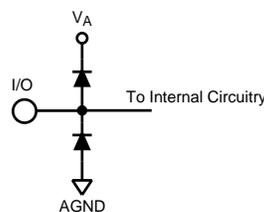

Figure 2.
- (1) The inputs are protected as shown below. Input voltage magnitudes above  $V_A$  or below GND will not damage this device, provided current is limited per Note 4 of the Absolute Maximum Ratings Table. However, errors in the A/D conversion can occur if the input goes above 2.6V or below GND as described in the Operating Ratings section. See Figure 2.
- (2) With a full scale differential input of  $2V_{P-P}$ , the 14-bit LSB is  $122.1\ \mu\text{V}$ .
- (3) Typical figures are at  $T_A = 25^\circ\text{C}$  and represent most likely parametric norms at the time of product characterization. The typical specifications are not ensured.
- (4) Parameters specified in dBFS indicate the value that would be attained with a full-scale input signal.
- (2) With a full scale differential input of  $2V_{P-P}$ , the 14-bit LSB is 122.1  $\mu V$ .
- (3) Typical figures are at  $T_A = 25^\circ C$  and represent most likely parametric norms at the time of product characterization. The typical specifications are not ensured.
- (4) This parameter is specified by design and/or characterization and is not tested in production.
- (2) With a full scale differential input of  $2V_{P-P}$ , the 14-bit LSB is 122.1  $\mu\text{V}$ .
- (5)  $I_{DR}$  is the current consumed by the switching of the output drivers and is primarily determined by load capacitance on the output pins, the supply voltage,  $V_{DR}$ , and the rate at which the outputs are switching (which is signal dependent).  $I_{DR} = V_{DR}(C_0 \times f_0 + C_1 \times f_1 + \dots + C_{13} \times f_{13})$  where  $V_{DR}$  is the output driver power supply voltage,  $C_n$  is total capacitance on the output pin, and  $f_n$  is the average frequency at which that pin is toggling.